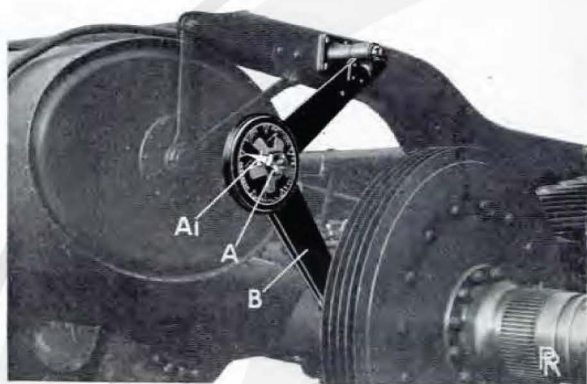

FIG. 32. REAR SHOCK ABSORBER.
Shock absorbers are also fitted between the rear axle and the frame, as shown in *Fig. 32*.
If it becomes necessary for any reason to remove the adjusting nut (A, *Fig. 32*), the following points should be carefully observed, in order that the original adjustment may be restored. The nut (A) and pointer (A') must be marked before removal, in order that they may be replaced in the same relative positions, and it should be observed that the pointer (A') indicates "4" on the dial